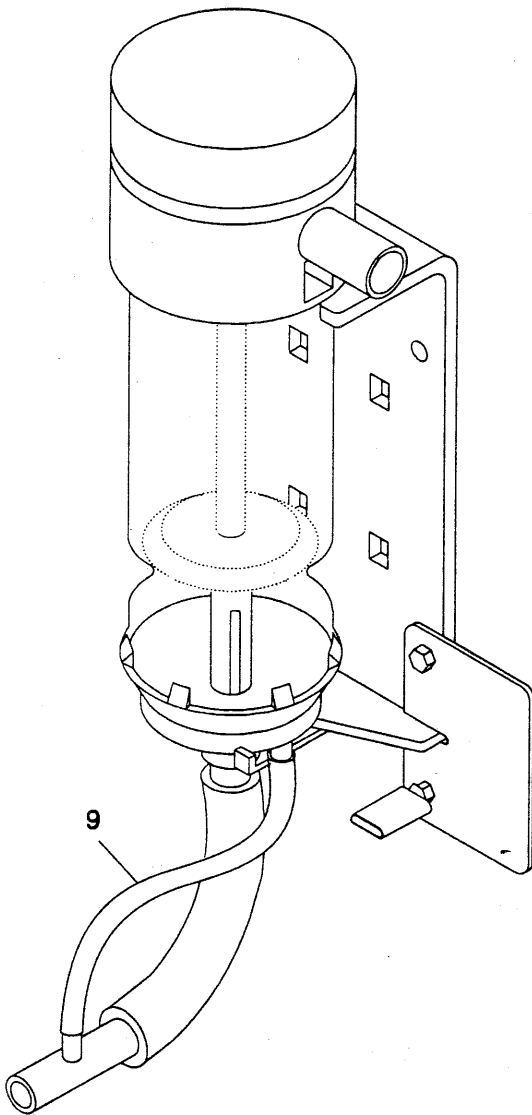

FIGURE 2 Hookup for No Sampling
- Remove the silicon tube **9** from the sample tube on the meter base. Refer to *Figure 2*.